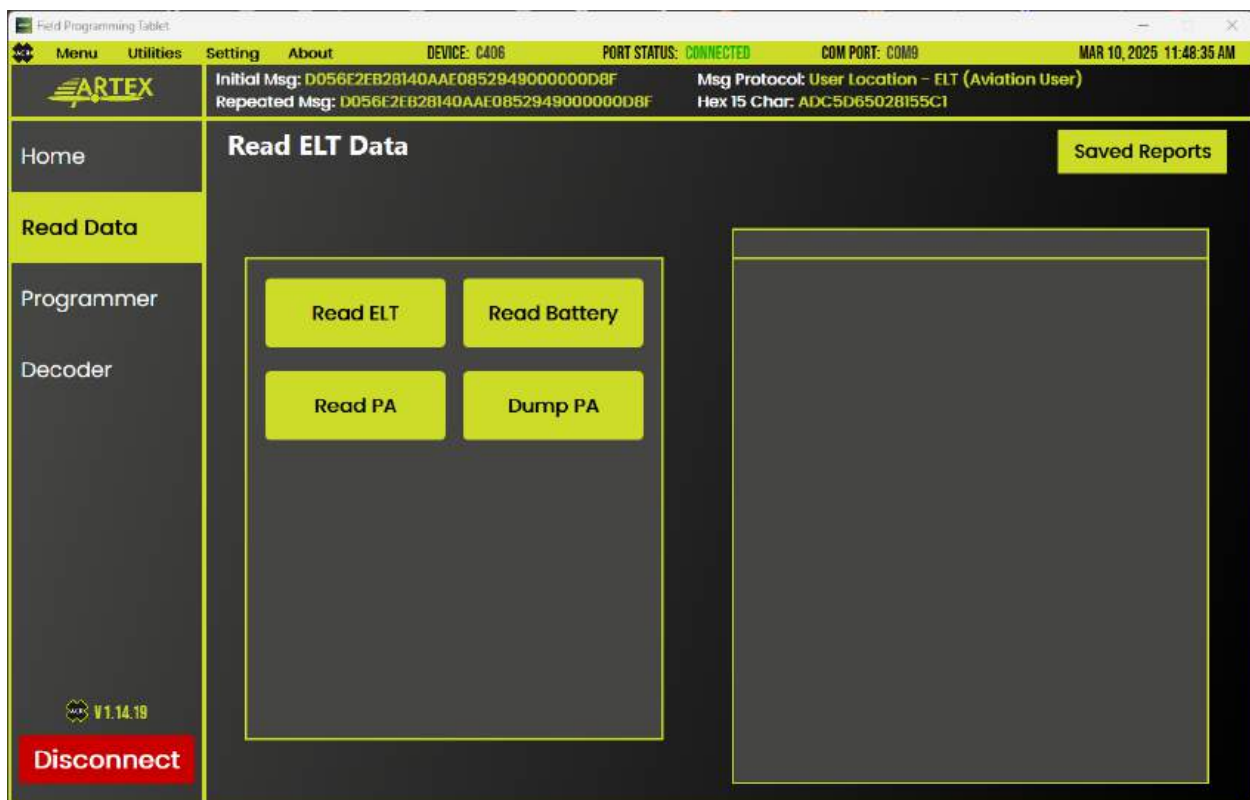

Figure 12 - FPT Read ELT Data Screen (C406-N)
1. The C406-N has two additional buttons for Reading and Dumping (Figure 12) the data from the Programming Adapter (PA).